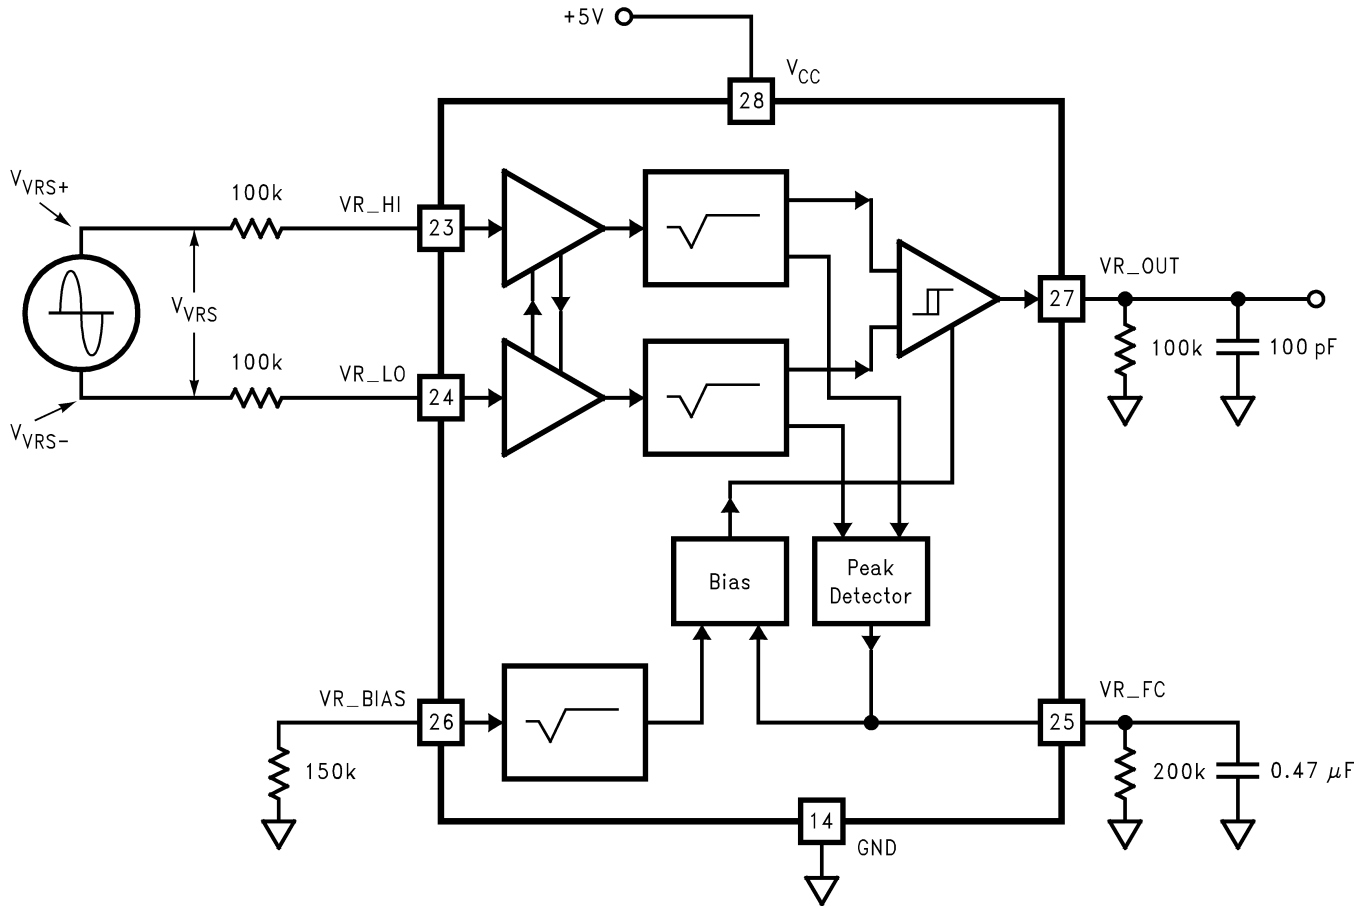
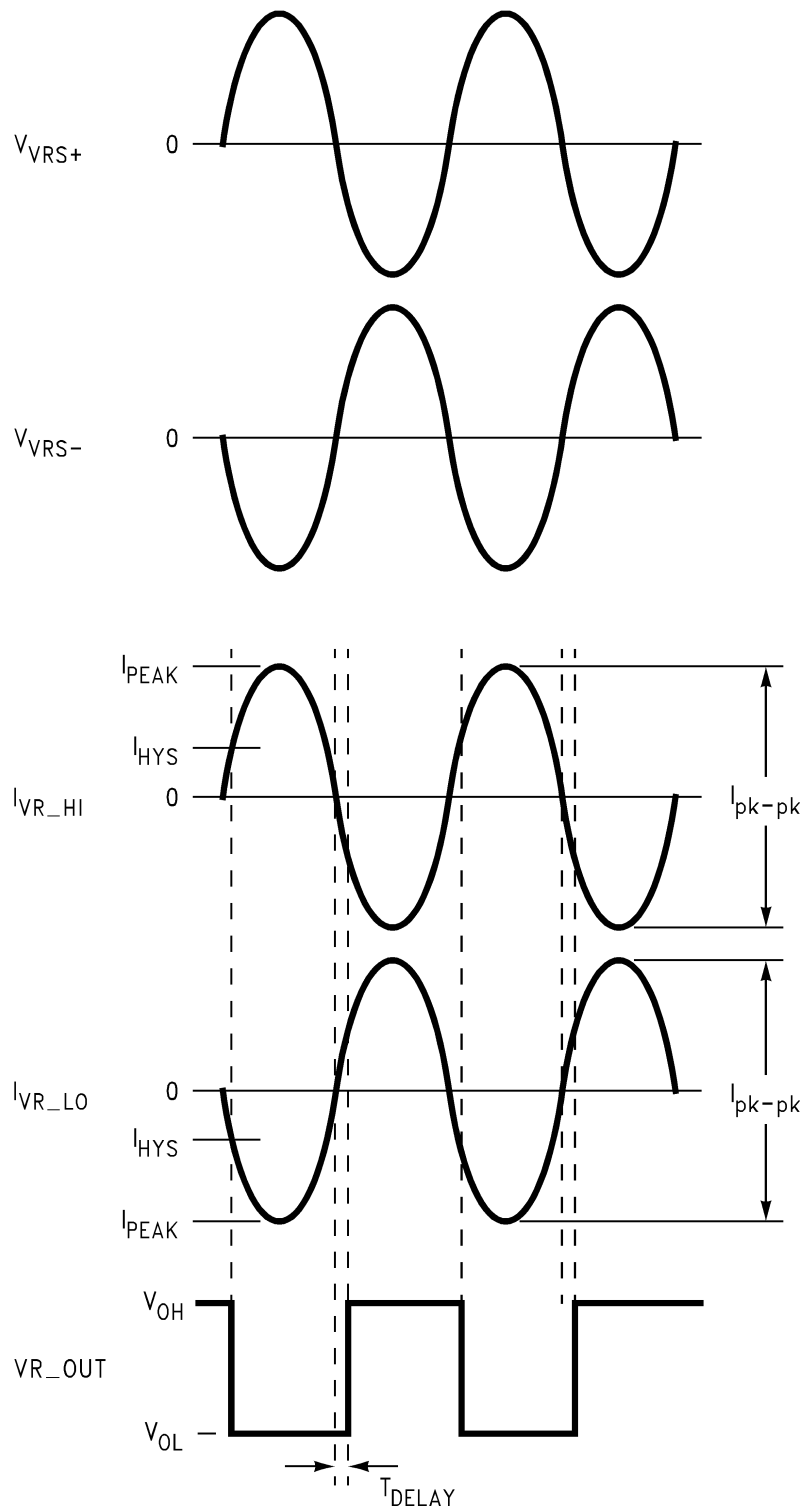

Figure 17. VR Interface Test Circuit
Figure 18. VR Interface Timing Diagram
(1) Minimum Detect Current is not production tested at +85C. Specifications are ensured through device characterization and Test Limits at 25°C and 125°C.
(2) Tested per VR Sensor Interface test circuit. See Figure 17 and Figure 18.
(1) Tested per VR Sensor Interface test circuit. See Figure 17 and Figure 18.
(2) VR Sensor Interface Tdelay, measured from VR input sine wave zero-crossing to VR_OUT going high. See Figure 18.
(3) Electronic Timing Interface Tsetup, minimum time between $V_{CC} > 4.75V$ and RESET = 1.
(4) Electronic Timing Interface Tsetup, minimum time between RESET = 1 and D0 = 1.
(5) Electronic Timing Interface Tsetup, minimum time between D0 / D1 = valid and ENB = 1.